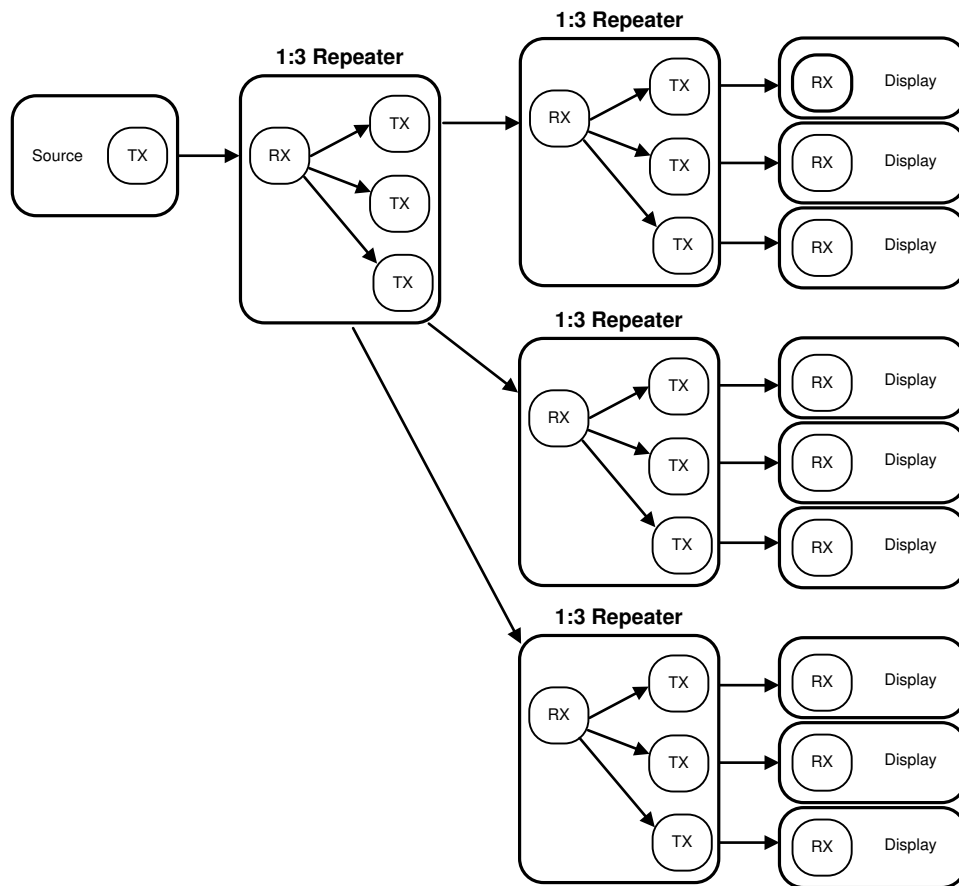

FIG 7-9. HDCP Maximum Repeater Application
In the HDCP repeater application, this document refers to the DS90UH947-Q1 as the HDCP transmitter (TX), and refers to the DS90UH948-Q1 as the HDCP receiver (RX). Figure 7-9 shows the maximum configuration supported for HDCP repeater implementations. Two levels of HDCP repeaters are supported with a maximum of three HDCP Transmitters per HDCP receiver.